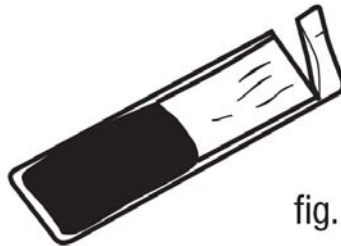

fig. 2
6. Squeeze resin to one end of bag and cut off other end. (fig. 2)